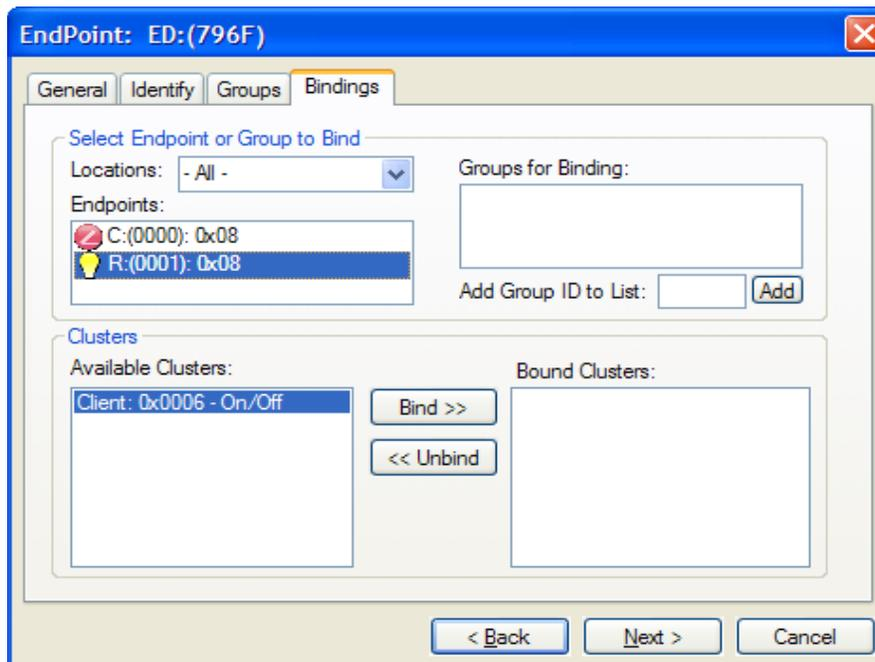

Figure 4-11. Binding Window
5. Click on the Bindings tab. The Bindings Window appears as shown in Figure 4-11.